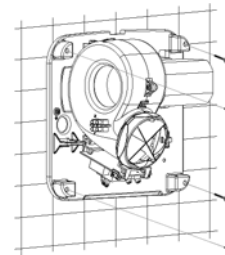

Fig. 7
3.- Screw in the four supplied screws to firmly secure the base of the dryer to the wall (see figure 7).